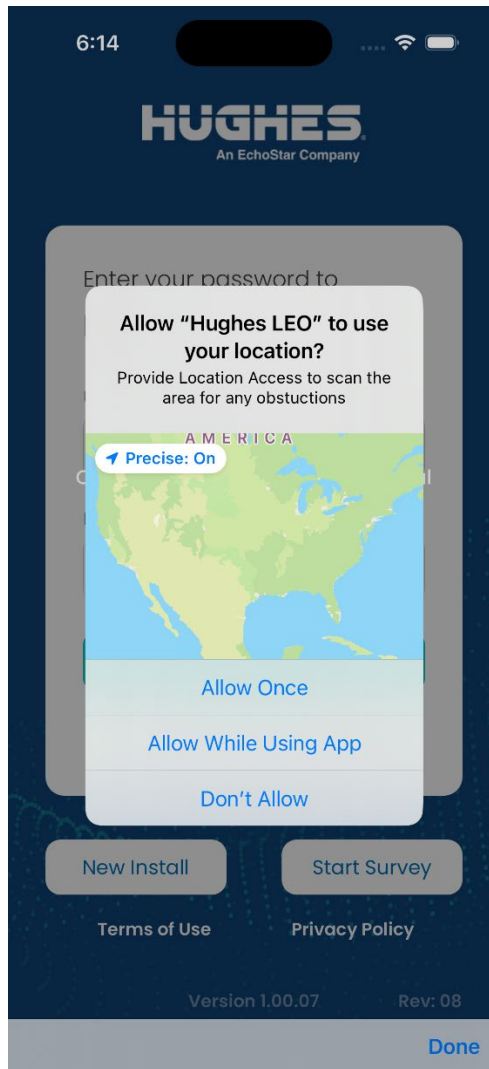

Figure 86: Allowing the app to use your location for commissioning the user terminal
7. The app will ask you to give your permission for using your location information (as shown in Figure 86) if you have not done this earlier at this installation site. If you do not give location permission the commissioning procedure will abort.